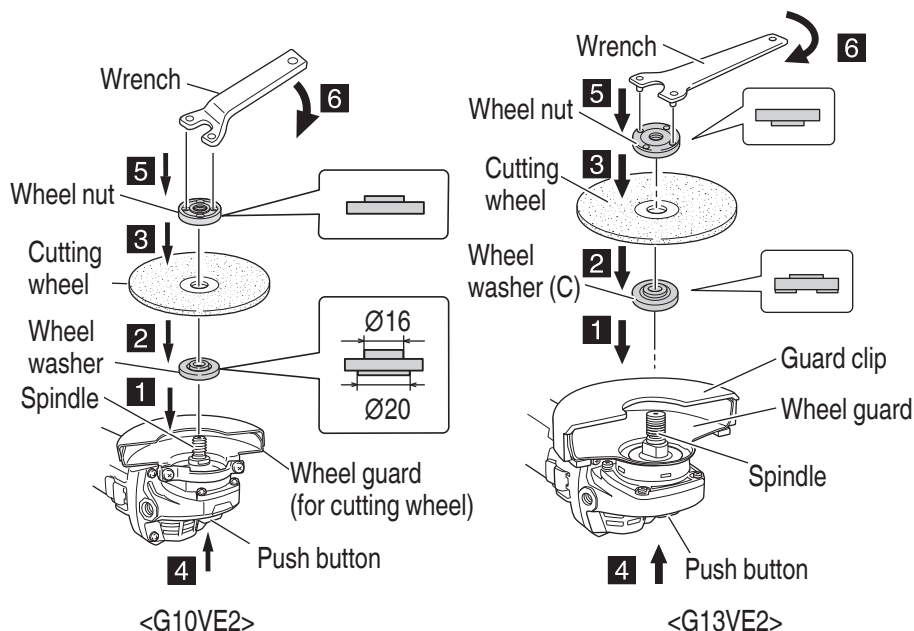

Fig. 10
## ASSEMBLING AND DISASSEMBLING THE CUTTING WHEEL (Fig. 10)
1. Assembling (Fig. 10)
- (1) Turn the disc grinder upsidedown so that the spindle is facing upward.
- (2) On the spindle, place the wheel washer towards the spindle and then attach the cutting wheel.
- (3) From the top of the cutting wheel, place the wheel nut towards the cutting wheel and attach to the spindle, as shown in the figure below.
- (4) Screw the wheel nut onto the spindle.
- (5) While pushing the push button with one hand, lock the spindle by turning the depressed center wheel slowly with the other hand.
- Tighten the wheel nut by using the supplied wrench as shown in Fig. 10.